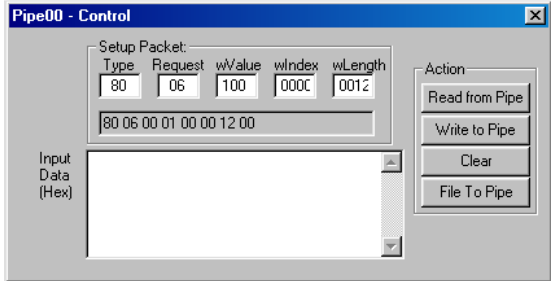

Figure 8.4: USB Pipes
- 2. Enter the required setup packet. For a write transaction that includes a data stage, enter the data in the **Input Data** field. Click **Read From Pipe** or **Write To Pipe** according to the required transaction (see the Figure 8.4).